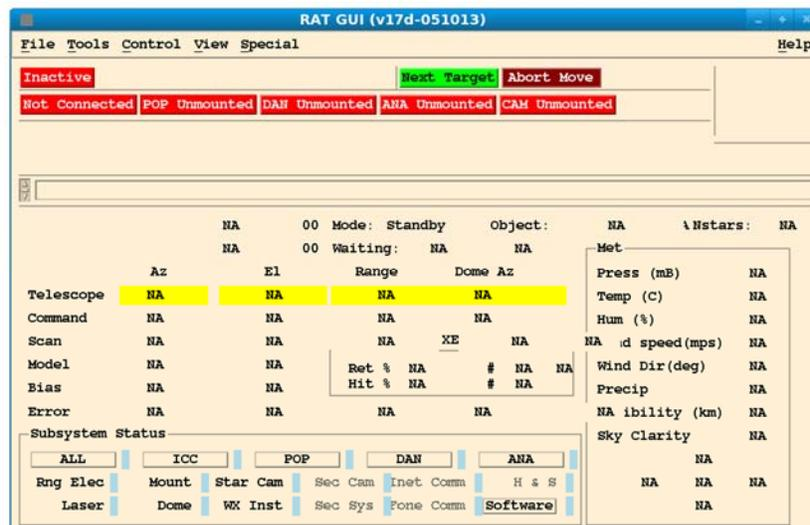

Figure 3-11: Main window for Ratgui as it appears after starting RAT
12. Log into the RAT laptop at the Operator Console using the **Technical User** account – The Ratgui software will automatically start, opening the user interface (Figure 3-11).